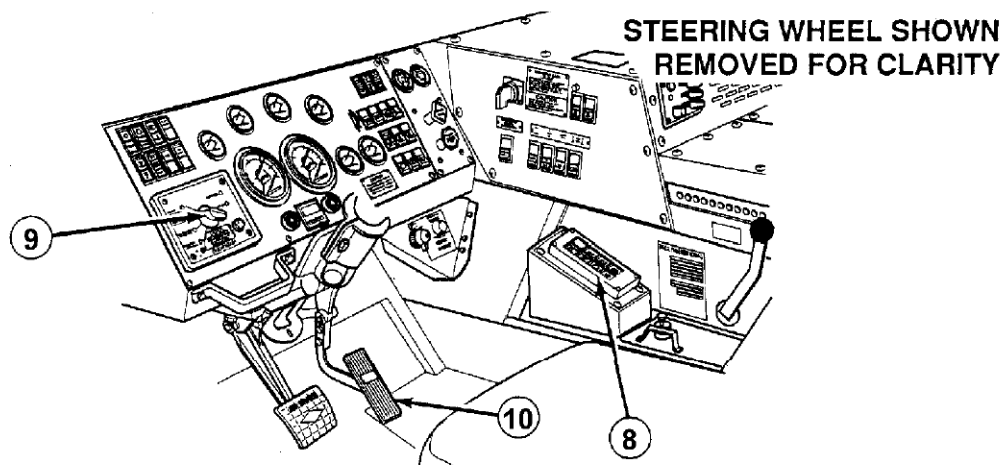

Figure 12. 14 Central Tire Inflation System Switch
- Move the CTIS switch to ON position and set the CTIS rotary selection switch (Figure 12. 14. (9)) to MUD, SAND AND SNOW.
- Press the throttle control (Figure 12. 14. (10)) slowly when changing speed.
- Keep the throttle control (Figure 12. 14. (10)) steady after the launch vehicle reaches the desired speed.